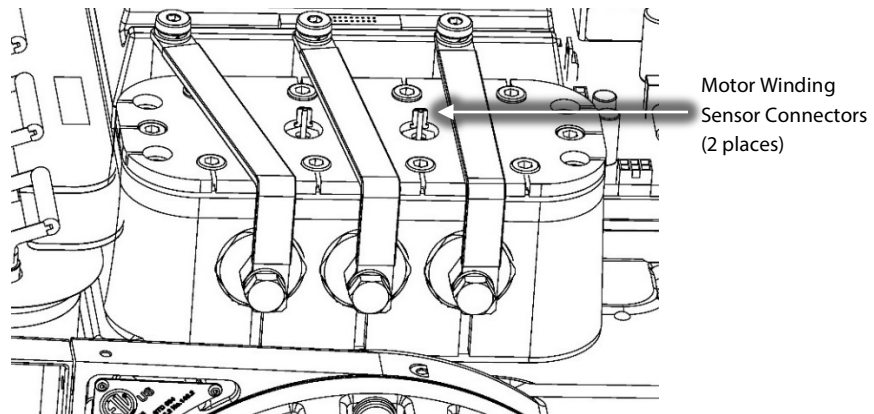

Figure 18 – Motor Winding Sensor Connector Removal
27. Disconnect the wires from the Motor Winding Sensor. Refer to Figure 18 (Motor Winding Sensor Connector Removal).